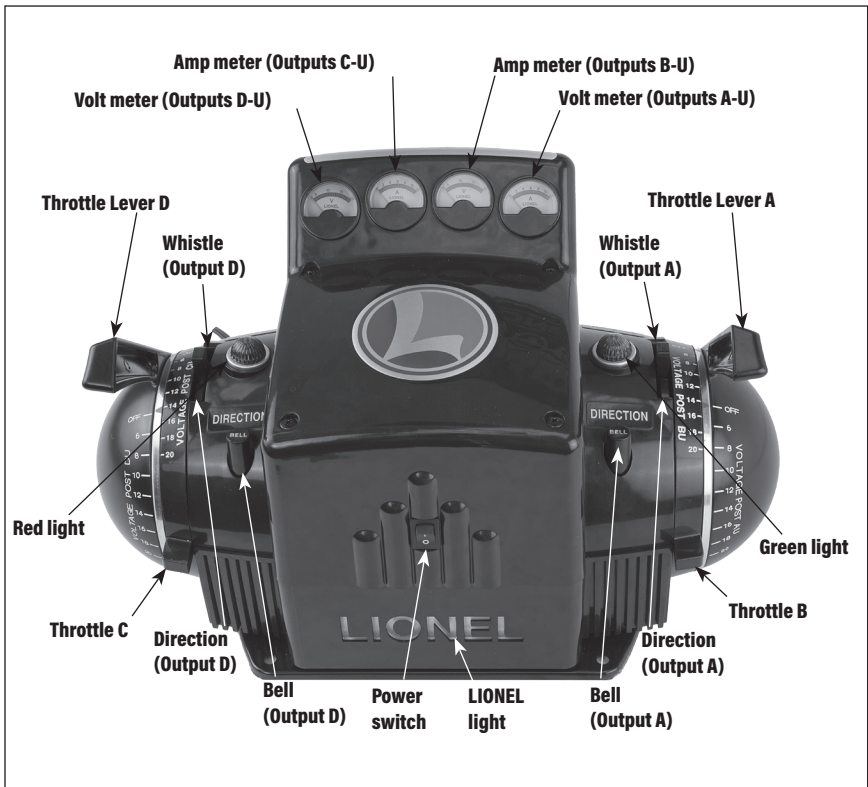

Figure 2. Operating controls
**T**he ZW-L Transformer's main operating controls are highlighted in this section. Refer to Figure 2 on page 7 for the location of these features.
The ZW-L Transformer features two voltage meters. See Figure 2. The right-hand meter reads the voltage on Outputs A-U and B-U (default reading is Output A-U); the left-hand meter reads the voltage on Outputs C-U and D-U (default reading is Output D-U).
*Lock-On connections:* Press down on the top of the terminal clip so that a metal loop is exposed. Slide the bare end of the wire into the exposed loop. See Figure 2. Release pressure on the terminal clip, allowing the crimped metal to pinch the end of the wire in the metal loop. Gently tug on the wire to check if the hold is secure.